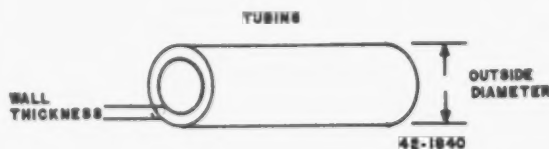

Figure 2-11. OD and wall thickness of tubing.
The tubing used in the manufacture of rigid tubing assemblies is sized by outside diameter (OD) and wall thickness. Outside diameter sizes are in sixteenth-inch increments. (See figure 2-11.) Thus, a number 6 tubing is 6/16 or 3/8 inch; number 8 tubing is 8/16 or 1/2; etc. Wall thickness is specified in thousandths of an inch, such as, 0.028, 0.035 etc.